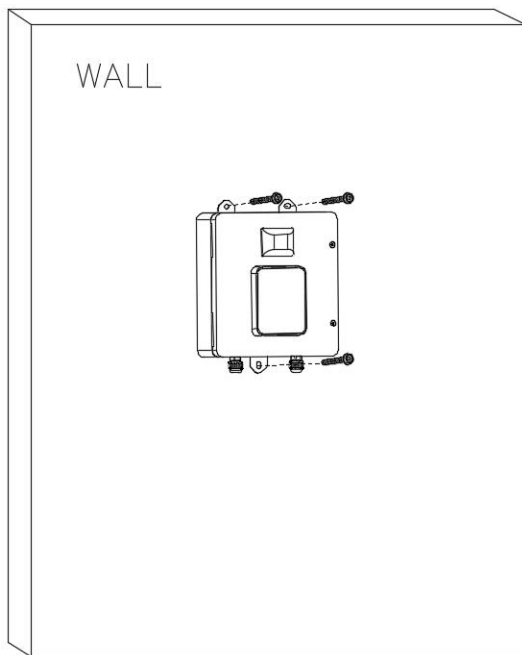

Figure 4-28 Installing the payment terminal
- Fix the payment terminal on the expansion tubes with M6 x 50 self-tapping screws (as shown in Figure 4-28).